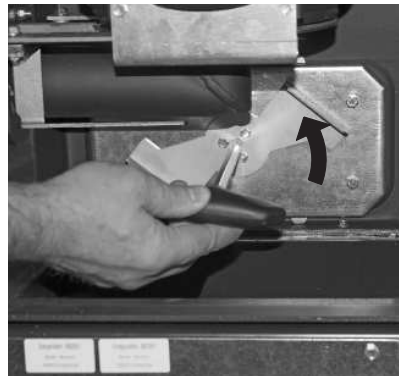

Fig. 30 Rotate handle in an anti-clockwise direction
- ▶ Position the cover (heat exchanger) and turn the handle as far as it will go in a clockwise direction – Fig. 30.